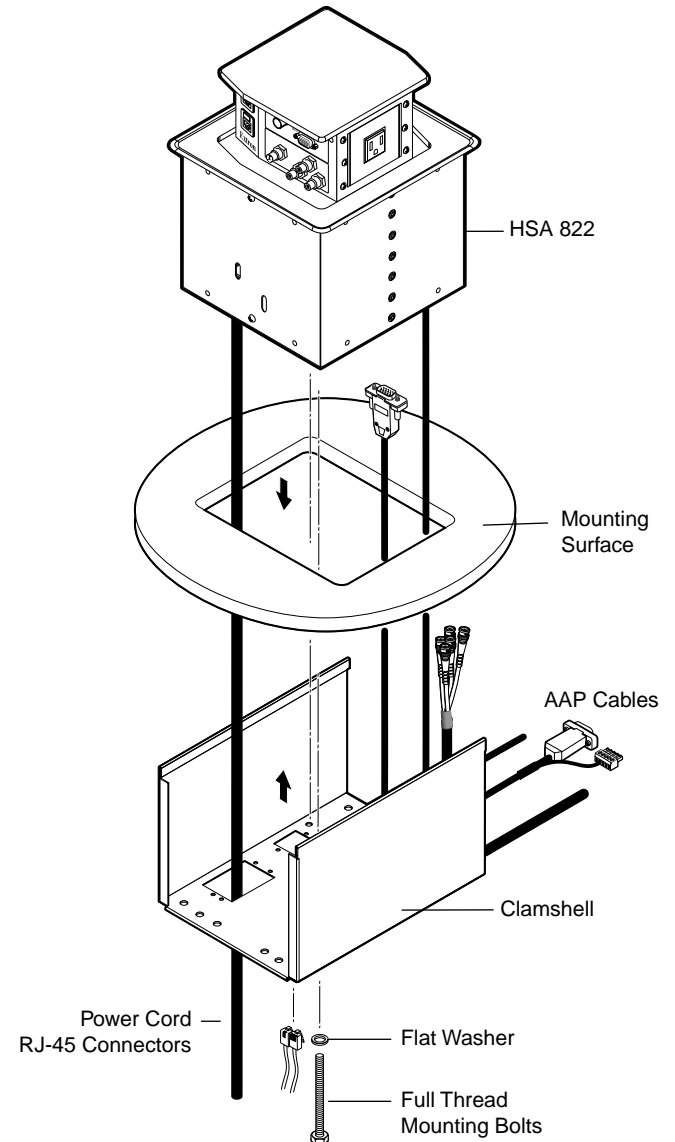

Figure 5. Mounting the HSA 822 Enclosure
- From the underside of the table, bolt the clamshell to the enclosure with two bolts of optimum length (included) (see figure 5).